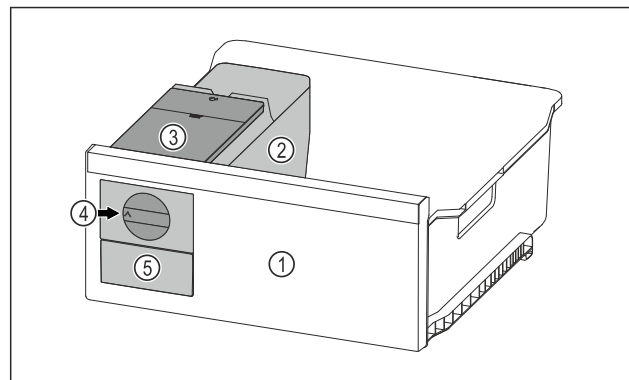

Fig. 97 Example illustration
- Turn the rotary knob Fig. 97 (4) clockwise as far as it will go.
- Ice cubes fall from the ice cube tray into the ice cube drawer Fig. 97 (5).